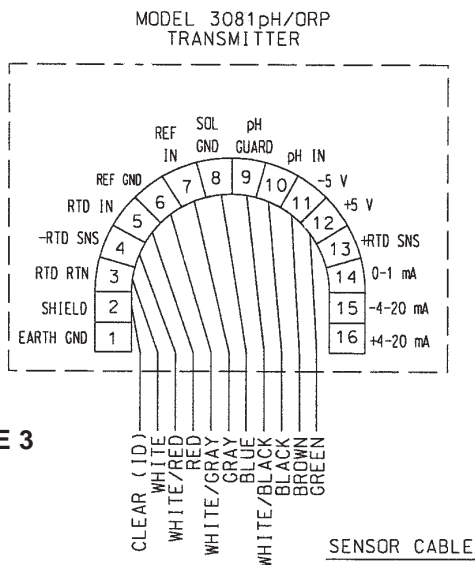

FIGURE 3
- Wire sensor Model 381+-55, 385+-03, or 396P-01-55 directly to the transmitter as shown in Figure 3.